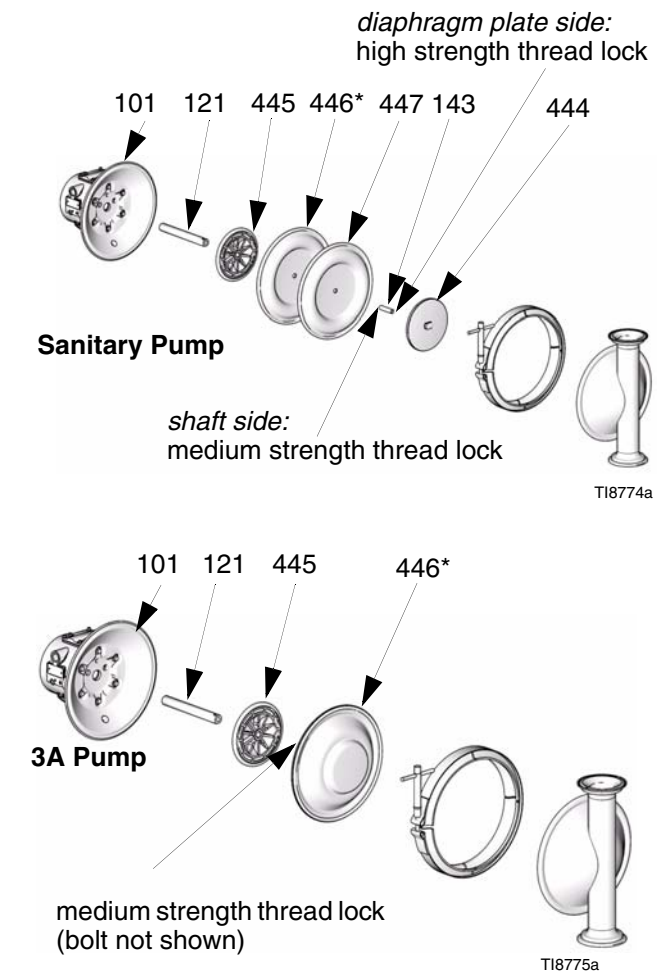

FIG. 19
Thread locker must be applied to screw (143) and to threads of 3A diaphragm assembly as shown in FIG. 19 for all diaphragm assemblies.